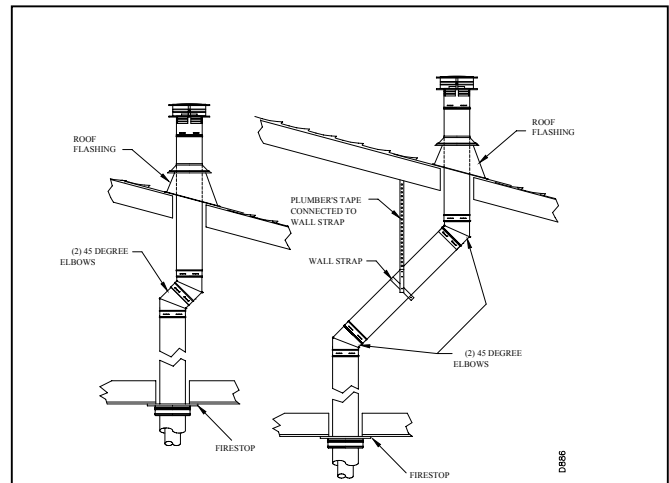

Figure 28 VERTICAL VENT PIPE OFFSETS
1. Determine the route that your vertical venting will take. If ceiling joists, roof rafters, or other framing will obstruct the venting system, consider an offset (see Figure 28) to avoid cutting load bearing members.
4. Connect a section of pipe and extend up through the hole. If an offset is needed to avoid obstructions, you must support the vent pipe every 3 feet. Use wall straps for this purpose (see figure 28). Whenever possible, use 45° elbows instead of 90° elbows. The 45° elbow offers less restriction to the flow of the flue gases and intake air.
5. Place the flashing over the pipe section(s) extending through the roof. Apply a bead of silicone or roof sealer to the bottom flange of the flashing and secure the base of the flashing to the roof and framing with roofing nails. Be sure roofing material overlaps the top edge of the flashing as shown in figure 28. There must be a 1" clearance from the vent pipe to combustible material.